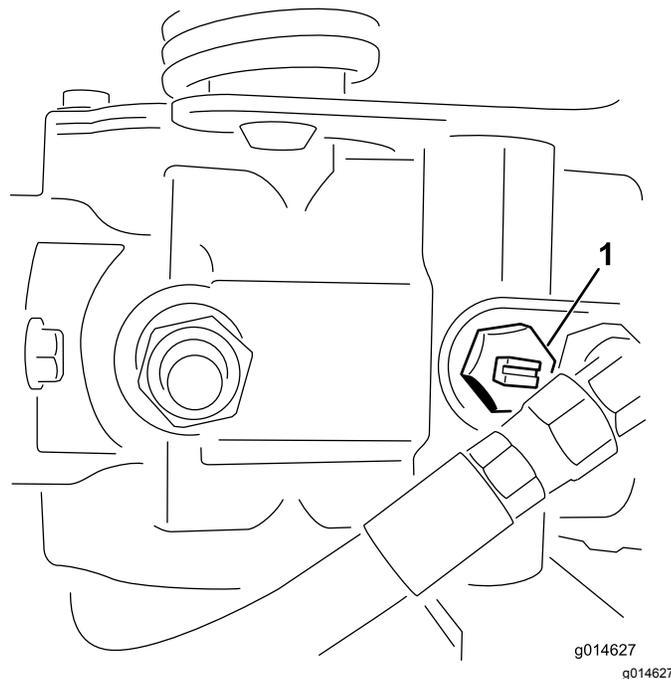

Figure 23
1. Locate the bypass valve on the pump and rotate it so that the slot is vertical (Figure 23).
2. Before starting the engine, close the bypass valve by rotating it so that the slot is horizontal (Figure 23).